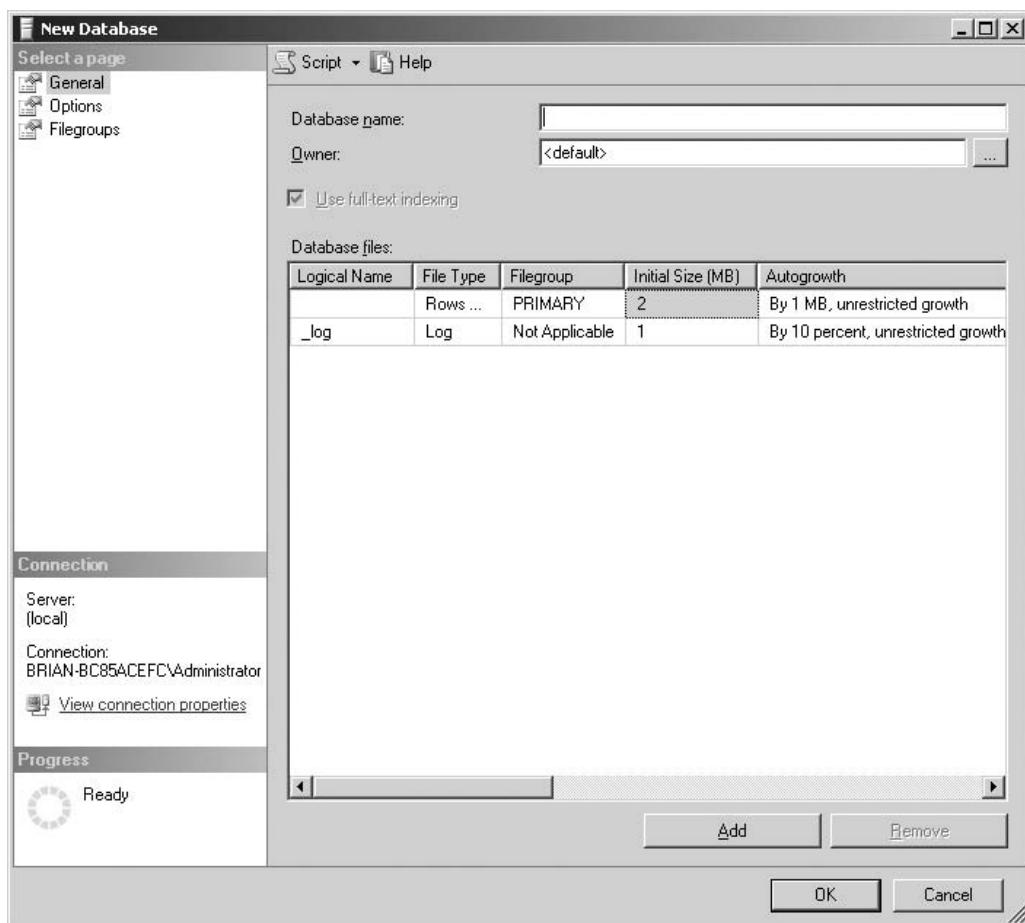

Figure 6-20 The New Database dialog box
4. Select New Database from the context menu. The New Database dialog box appears, as shown in Figure 6-20.